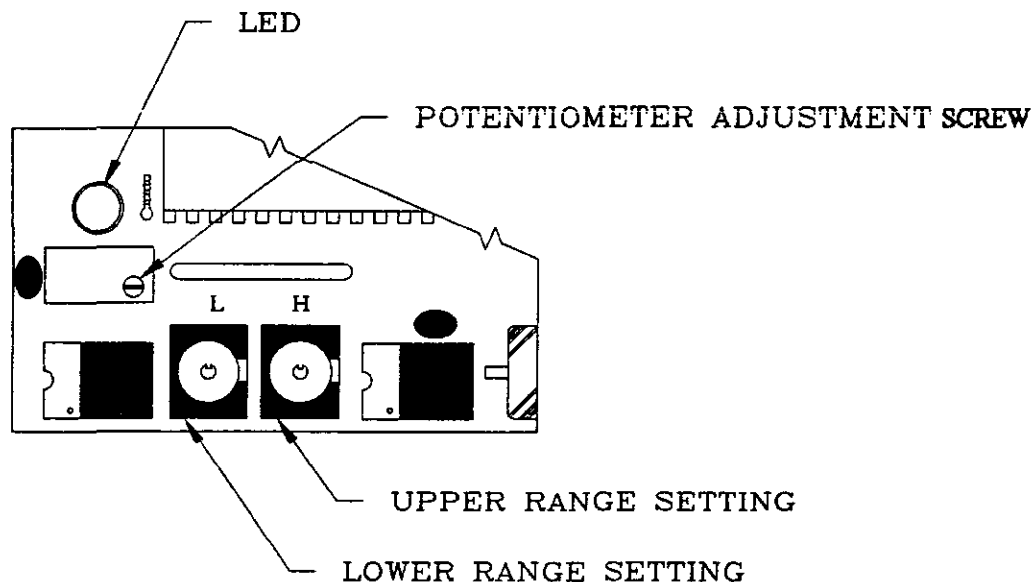

Figure 1
2. With power on, pull pendant trigger to full on position. Adjust potentiometer adjustment screw located next to the red light (see Figure 1) until light just turns off, then turn trim pot back until the light just comes on. The light should stay on during full trigger movement. Clockwise rotation of the trim pot will turn light off. Counter-clockwise rotation will turn the light on. This "tunes" the amplifier to the trigger potentiometer.
3. After warming the hydraulic system oil, determine which function should be used to set the low position switch (ROTATE USES THE LEAST AMOUNT OF PRESSURE). Activate that function with trigger released, and turn the lower range setting dial (REF. FIG 1: MARKED WITH "L" ON CIRCUIT BOARD) until the desired speed is reached. The "Zero" and the "F" on the dial are opposite ends of the switch. To adjust the low set point, turn **CLOCKWISE DIRECTION** for **INCREASED FLOW**, **COUNTER CLOCKWISE DIRECTION** for **DECREASED FLOW**. This adjusts the "Threshold Speed" for the trigger in the released position.
4. Operate the boom up function with trigger pulled back to the maximum position. Turn the high range setting dial (REF. FIG 1, MARKED WITH "H" ON CIRCUIT BOARD) until there is a noticeable decrease in speed, then back up one or two notches as desired. "Zero" is the maximum speed setting and "F" is the most reduced speed setting. To set the high range dial, turn **CLOCKWISE DIRECTION** for **DECREASED FLOW**, **COUNTER CLOCKWISE DIRECTION** for **INCREASED FLOW**. This operation adjusts the trigger "Dead Band" at the fully pulled position.
With the Time Delay Relay exposed, carefully remove the yellow wire terminal from tab #1. If the three functions work, the Time Delay Relay is probably at fault. If they do not work, check the ground connection shown in Fig.1. If this doesn't help, replace the Relay. Re-attach yellow wire to terminal #1.